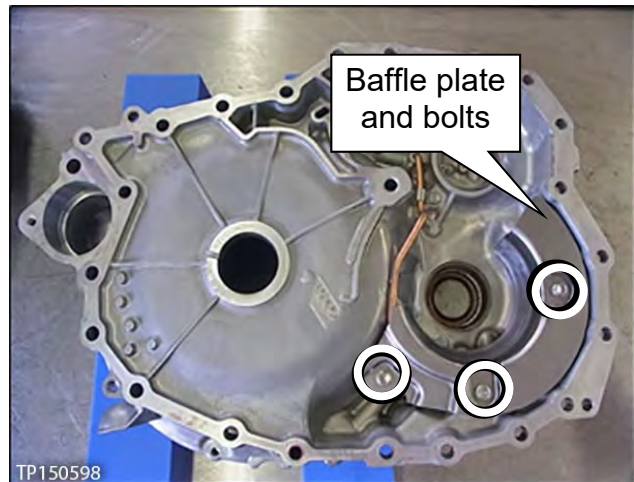

Figure 152
- a. Remove the three bolts, and then remove the baffle plate from the converter housing (Figure 152).